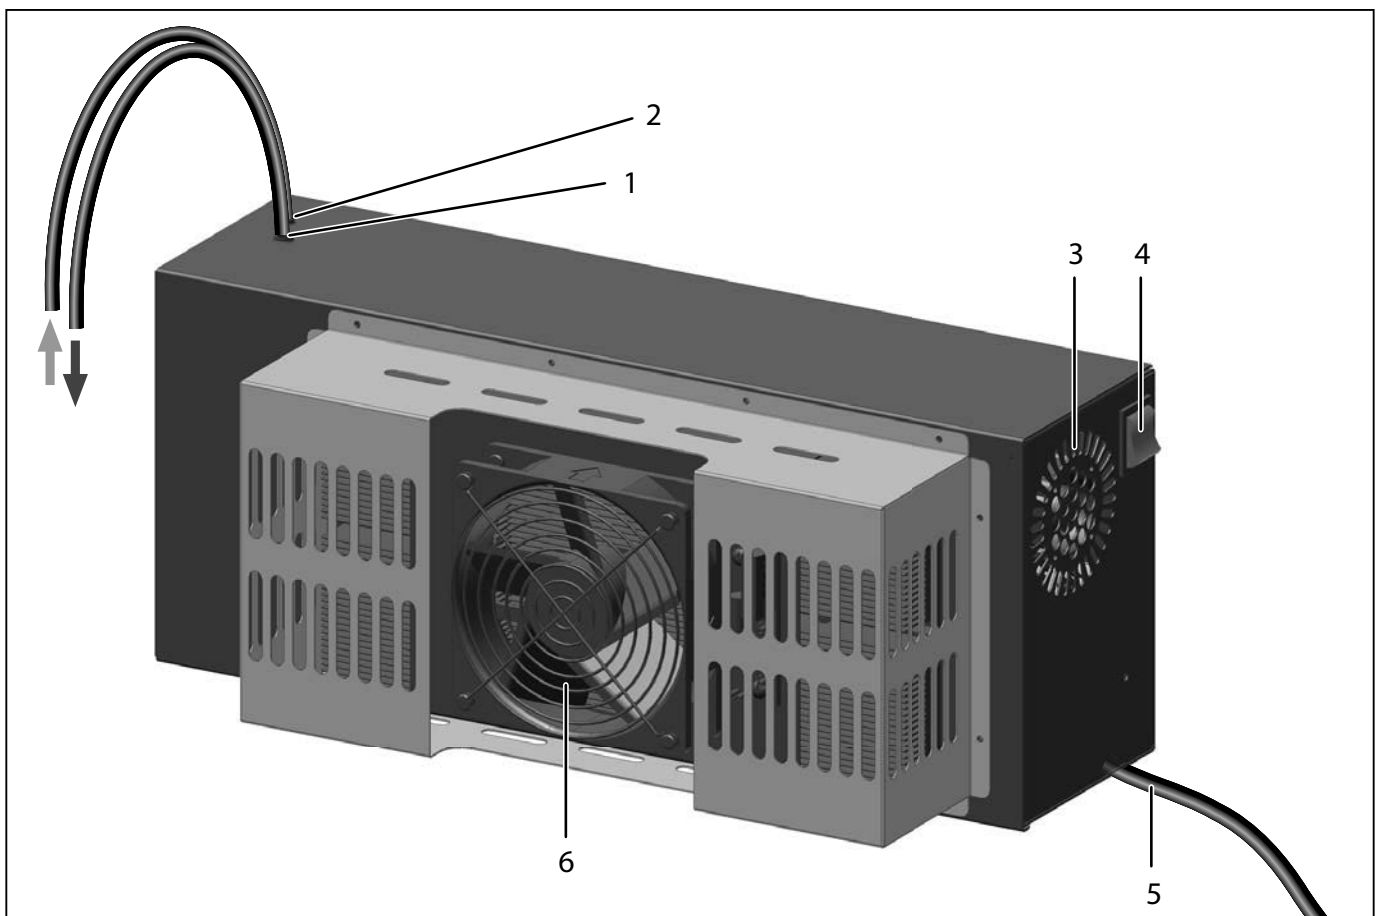

Fig. 1 Waterbath cooling unit CDP 115
- 1 The operating location of the waterbath cooling unit should be chosen so that the fan opening of the Peltier cooling element (see Fig. 1) remains as free as possible to achieve the maximum cooling performance. The other two fan openings in the housing must also remain uncovered.